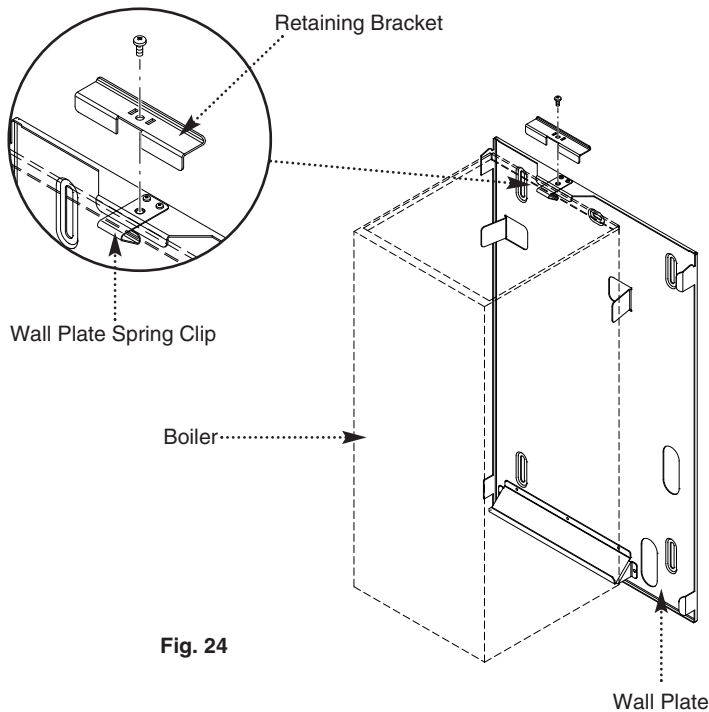

Fig. 24
8.3 Fitting The Boiler (Fig. 24)